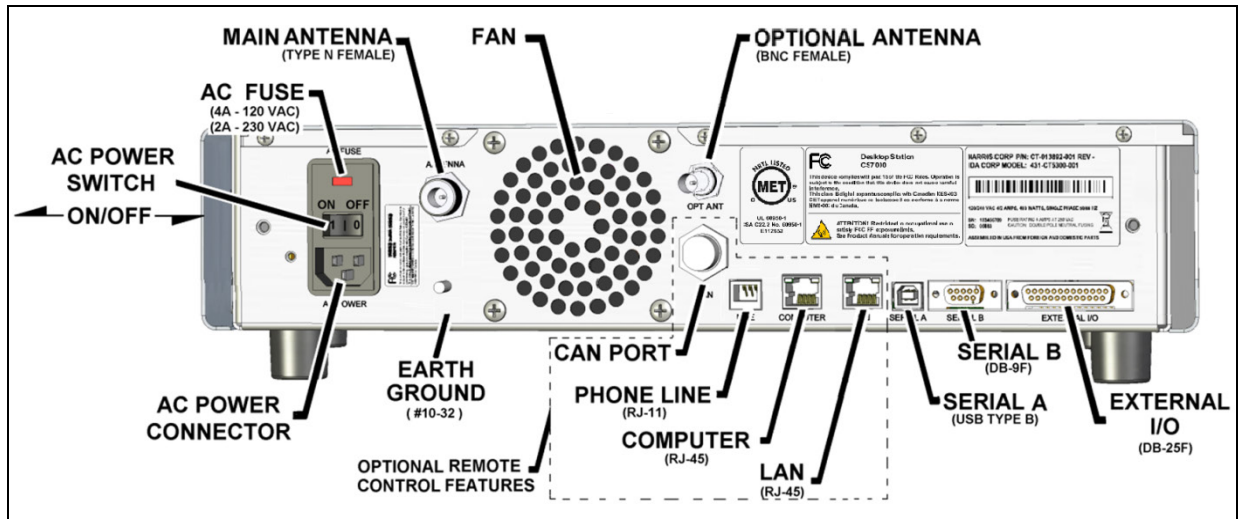

Figure 3-3: Rear Panel Features – Local and Remote Stations
All versions of the CS7000 Control Station share similar rear panel features (refer to Figure 3-3). CS7000 Control Stations equipped from the factory with a Unity XG-100M also includes a rear-panel mounted BNC antenna connection for low-band (30 to 50 MHz) operation. The following sub-sections provide a brief description of the available rear panel features.
2. On the Control Station's rear panel (refer to Figure 3-3), turn on the main ON/OFF power switch located just above the AC power cord. The front panel Power Indicator should be illuminated green.